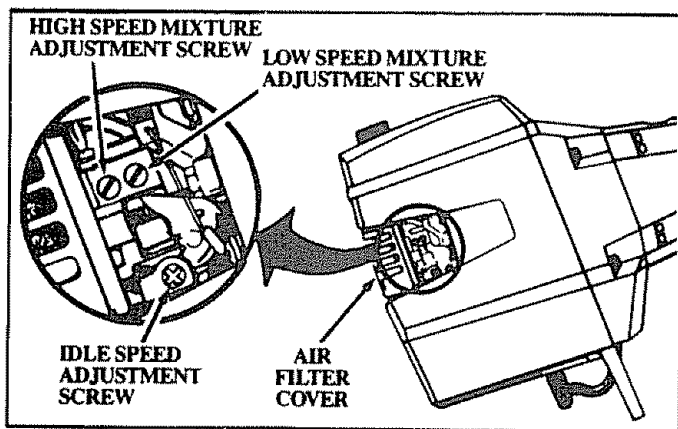

Figure 35
- a. Turn the Low Speed Mixture Screw and the High Speed Mixture Screw (Figure 35) clockwise just until they stop. *Do not turn the screws until they are tight as damage to the needle seats can occur.*
- 2.) Adjust Idle Speed Screw (Figure 35) until the engine continues to run without stalling and without the trimmer head moving.
- b. If the engine does not accelerate smoothly, turn the Low Speed Mixture Screw (Figure 35) counterclockwise ← a small amount (no more than the width of the slot in the adjusting screw).
- 2.) Turn the Low Speed Mixture Screw (Figure 35) slowly clockwise until the speed starts to drop. Note this position.
- 3.) Turn High Speed Mixture Screw (Figure 35) very slowly clockwise until engine speed is reduced.